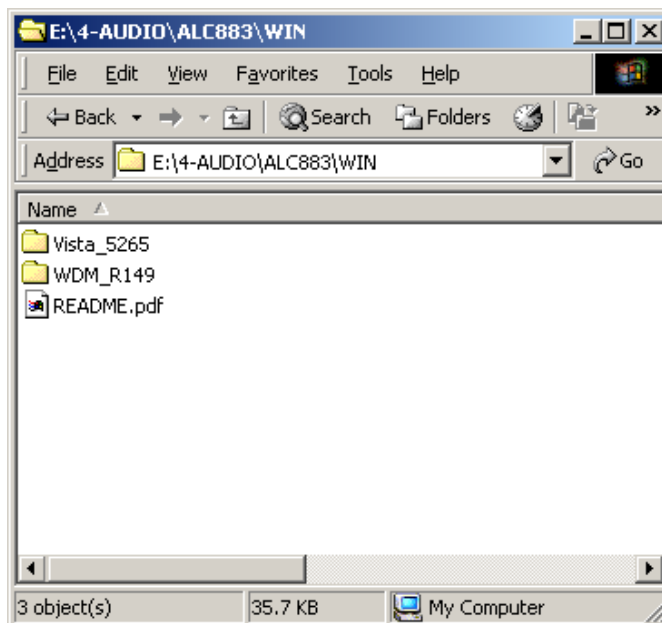

Figure 7-25: Select the OS Version
Step 5: Double-click the appropriate operating system version folder (**Figure 7-25**).